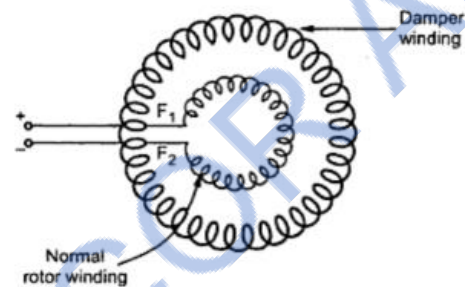

Figure 4.41 Starting as a squirrel cage I.M.
- This winding as short circuited, acts as a squirrel cage rotor winding of an induction motor. The schematic representation of such damper winding is shown in the Fig.4.41.